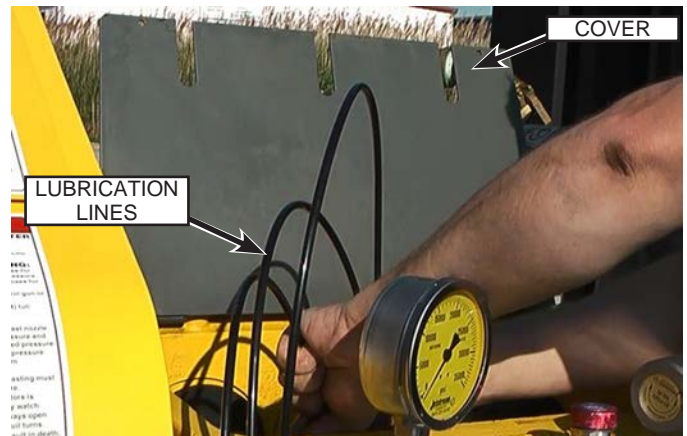

Fig. 43: Disconnecting Lubrication Lines
4. Open the rod box cover (Fig. 43) and disconnect the lubrication lines from the stuffing box fittings.